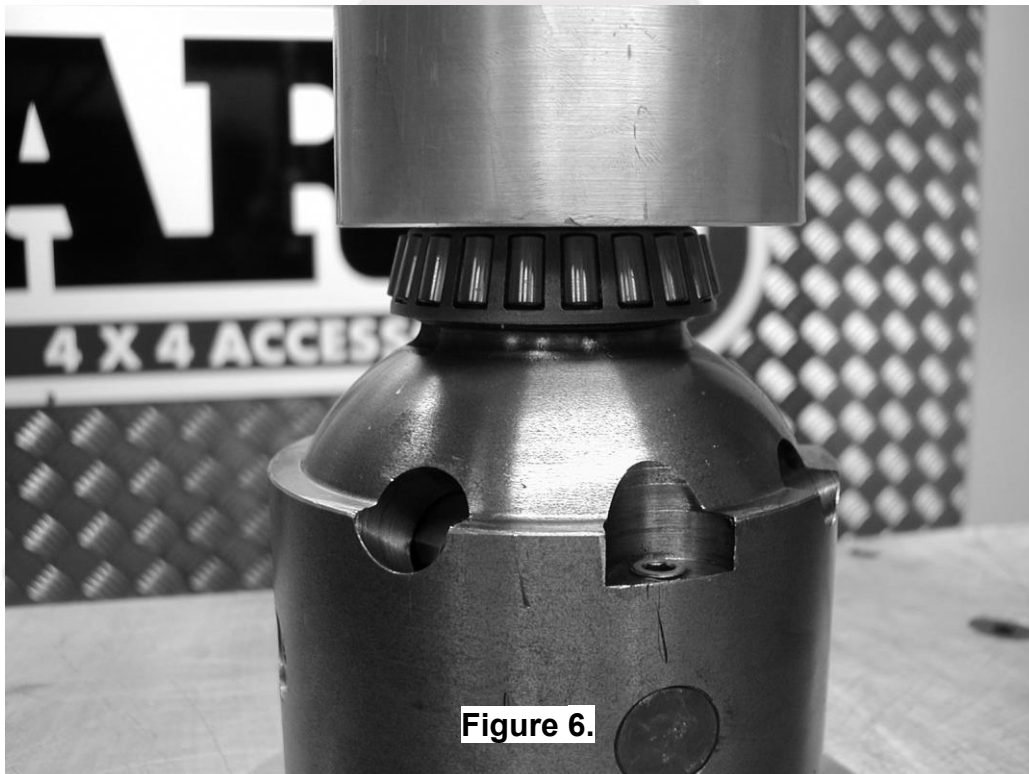

Figure 6.
- ☐ Using a bearing press or arbor press, press one of the bearing cones onto one bearing journal of the *Air Locker* (refer to Fig.6.) until the bearing seats firmly against the bearing journal shoulder.